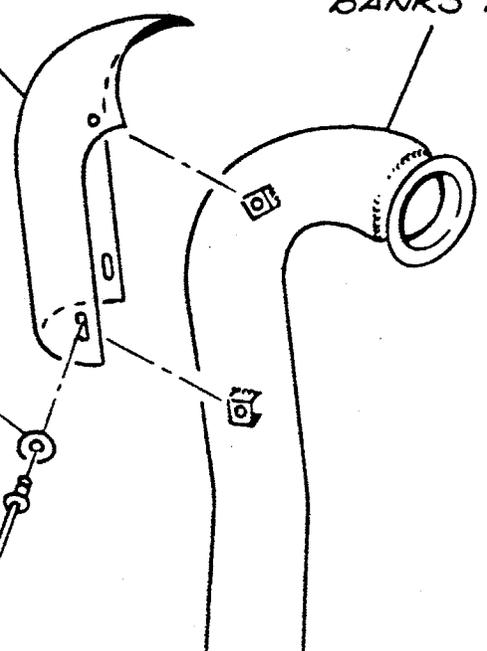

FIG. 3
17. Clamp the exhaust inlet flange of the turbocharger in a bench vise. Loosen the four bolts, attaching the turbine housing to the center bearing section of the turbocharger. See fig. 3.